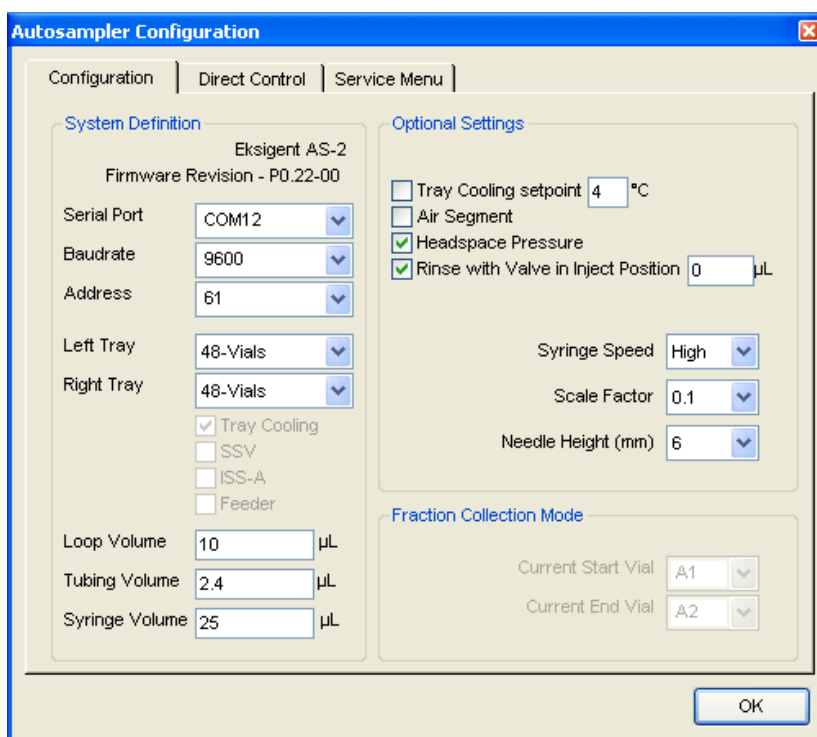

Figure 3-11 Autosampler Configuration Dialog
12. Select **Devices > Autosampler Device Settings** to display the Autosampler Configuration dialog (Figure 3-11).